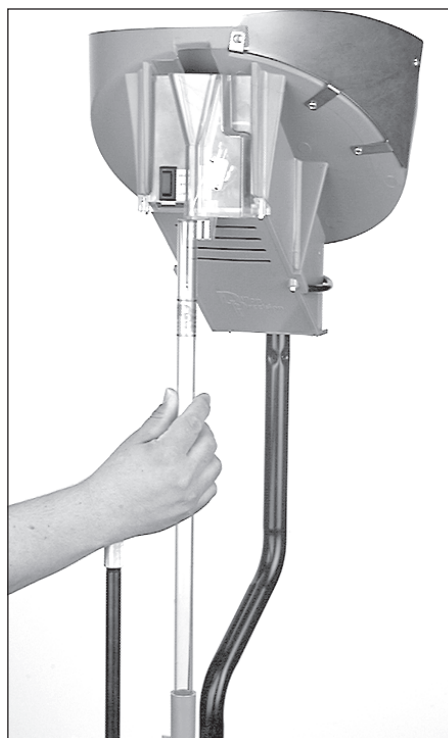

FIG 23
5. Align the casefeed bowl so the spring clamp is directly over the casefeed adapter. Place the casefeed tube into the casefeed adapter then snap the tube into the clamp FIG 23.